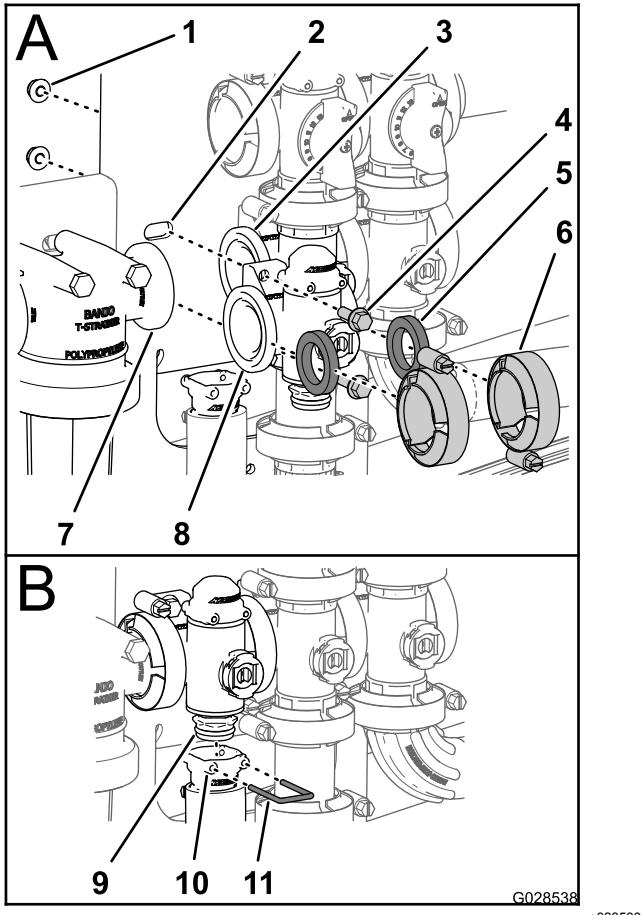

Figure 101
1. Align a gasket between the flanges of the rate control valve manifold and the pressure filter head (A of Figure 101).
2. Assemble the rate control valve manifold, gasket, and pressure filter head with a clamp and tighten by hand (A of Figure 101).
3. Align a gasket between the flanges of the rate control valve and the agitation valve manifold (A of Figure 101).
4. Assemble the rate control valve manifold, gasket, and agitation valve manifold with a clamp and tighten by hand (A of Figure 101).
5. Assemble the rate control valve to the valve mount with the 2 flanged-head bolts and 2 flanged locknuts (A of Figure 101) that you removed in step 3 of Removing the Rate Control Manifold Valve \(page 67\) and torque the nut and bolt to 1017 to 1243 N-cm (90 to 110 in-lb).
6. Assemble the outlet fitting onto the lower endcap fitting of the manifold valve (B of Figure 101).
7. Secure the endcap fitting to the outlet fitting by inserting a retainer into the socket of the outlet fitting (B of Figure 101).